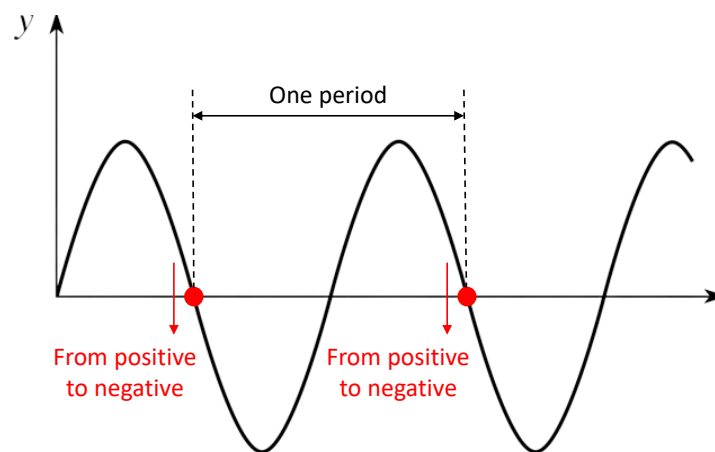

Figure B.2: Principle of zero crossing detection.
**B.2.2 Step 2: Measuring Frequency: Zero Crossing Detection** Once you are at the point to detect a symbol, your detector will then need to determine the frequency of the input sine wave at that symbol period. There are many methods to determine the frequency of an input signal. Here, we show you one of the easier method that you may consider using in your project: Since the input waveform is given as a pure sine wave, a simple way to determine its frequency is to use a method called *zero crossing detection* (ZCD). Figure B.2 illustrates the ZCD principle.